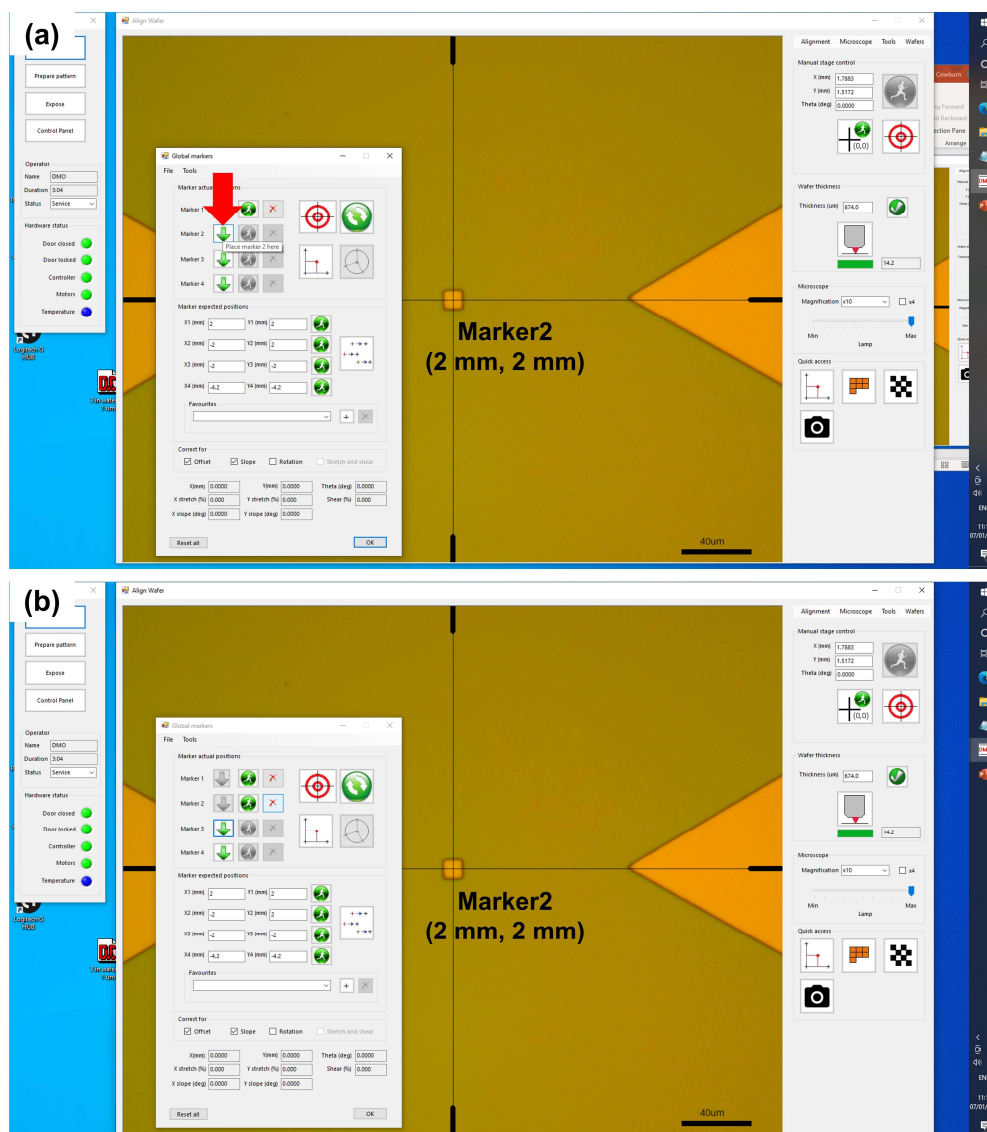

Figure 5 Place the Marker 2 on top of the second alignment marker. (a) Before and (b) after placing the Marker 2 in the “Global markers” window.
- g. Place Marker 2 here: click the Green downward arrow next to Marker 2 (Figure 5 before placing and Figure 5 after placing the Marker 2).